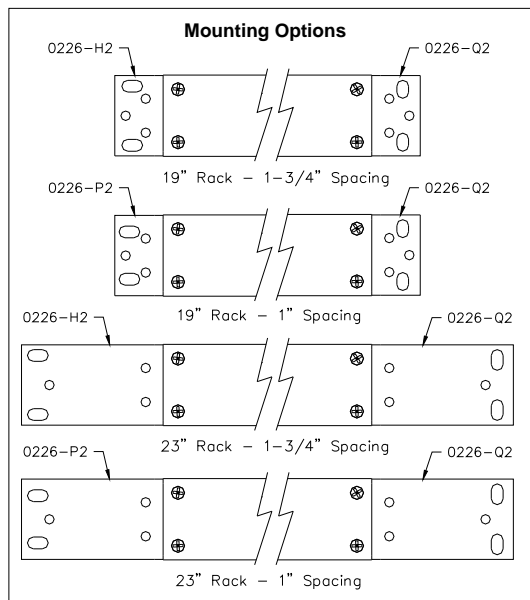

Figure 4.2.1
4.2. Once the panel is unpacked, verify that there are three mounting brackets (two on the panel one in the box). The bracket with the vertical slot is universal and used on both 1” and 1.75” spacing rails. There will be two brackets with horizontal slots which will fit 1” or 1.75” spacing. All three brackets are universal for 19” and 23” rack spacing and can be installed with a flush mounting or 5” offset. See Figure 4.2.1 for the bracket mounting configurations. Adjust the position and orientation of the brackets such it will fit properly in your application. The brackets should be attached to the chassis using screws with external tooth lock washers.